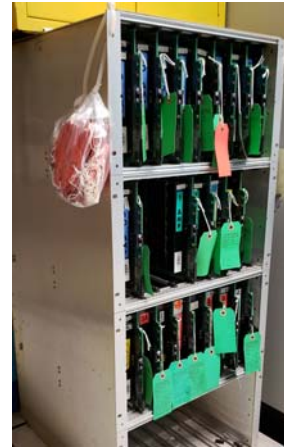

Figure 2-2: Spares Rack in MCC Equipment Room
- a. Locate the trim card spares rack in the MCC Equipment Room (see Figure 2-2).